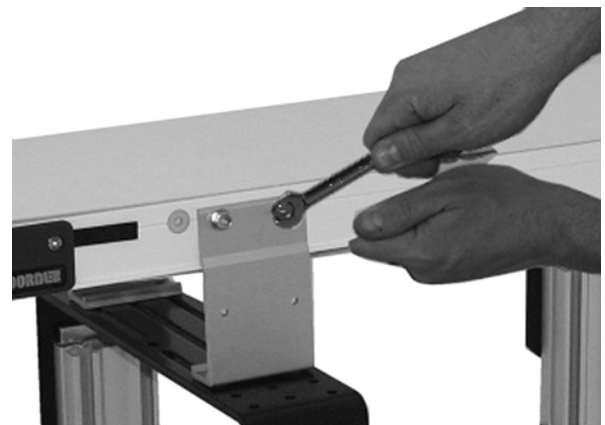

Figure 21
4. Hand tighten the screws to secure (**Figure 21**). Recommended torque is 150 in.lbs (17 Nm).